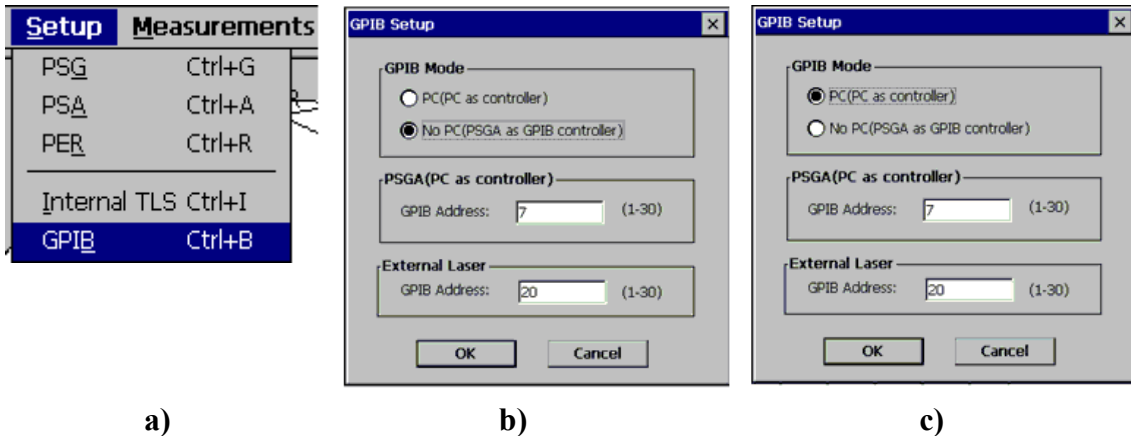
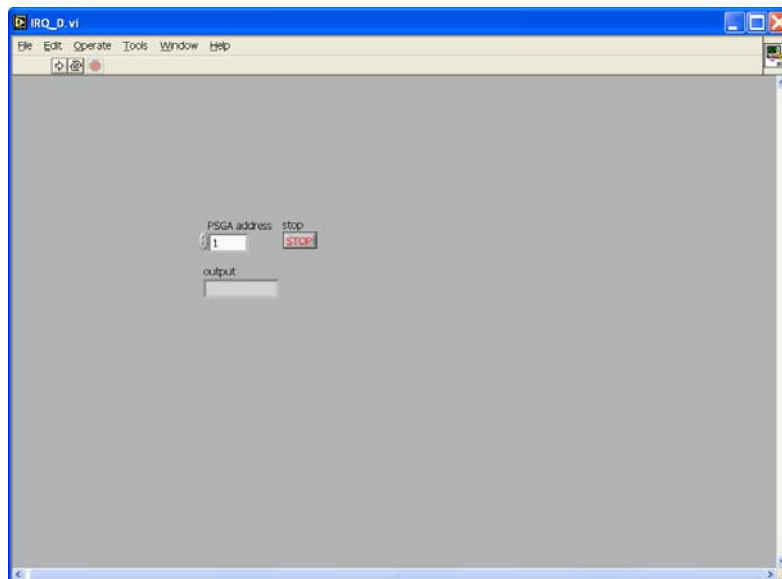

Figure 55 GPIB setup interface
Figure 56 Control interface of IRQ.exe
- (i) **No PC Mode (PSGA Mode):** The PSGA acts as the GPIB controller; it controls the other GPIB devices. In this mode, no other PC is connected to the PSGA-101A through a GPIB connection. Without an external PC, the PSGA can be used as a GPIB controller to control external lasers through GPIB cables. **If this mode is to be used, no external PC can be connected to the PSGA via GPIB cable; if a PC is connected, the PSGA cannot control the external laser or communicate with the PC.** The GPIB address of the PSGA is 0 (when it is used as a GPIB controller). The correct GPIB address of the external laser to be controlled must be set in the setup dialog window (Figure 55).
- (ii) **PC Mode:** the remote PC functions as the GPIB controller, with the PSGA-101A as one of the GPIB devices under remote control. In this case, the user should set a GPIB address between 1 and 30 for the PSGA-101A, and the correct GPIB address for the external laser being controlled by the PSGA, in the setup dialog window (Figure 55). The GPIB driver program “IRQ.exe” should be run on the PC to support this mode (Figure 56), **otherwise, the PSGA cannot control the external laser to finish measurements. Please set the correct PSGA GPIB address before attempting any measurements or control.**